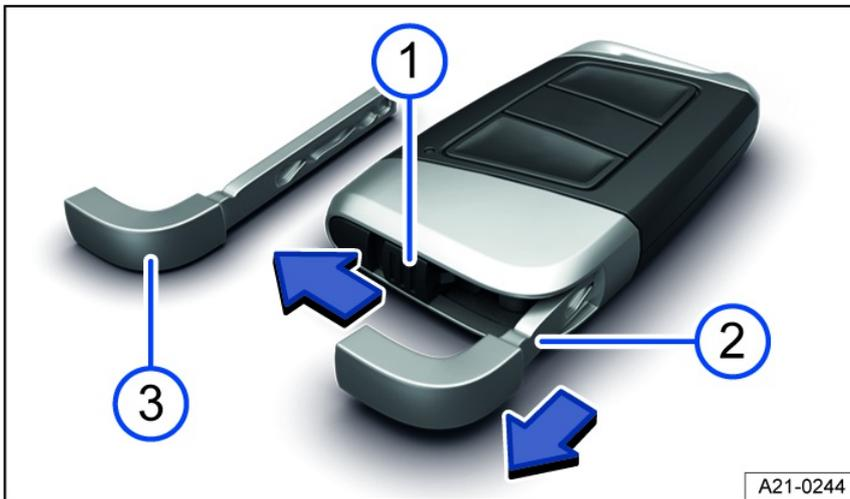

Fig. 47 Vehicle key: Unlocking the emergency key (general example).
There may be an emergency key *fig. 47* (3) located in the vehicle key that can be used to manually unlock and lock the vehicle.